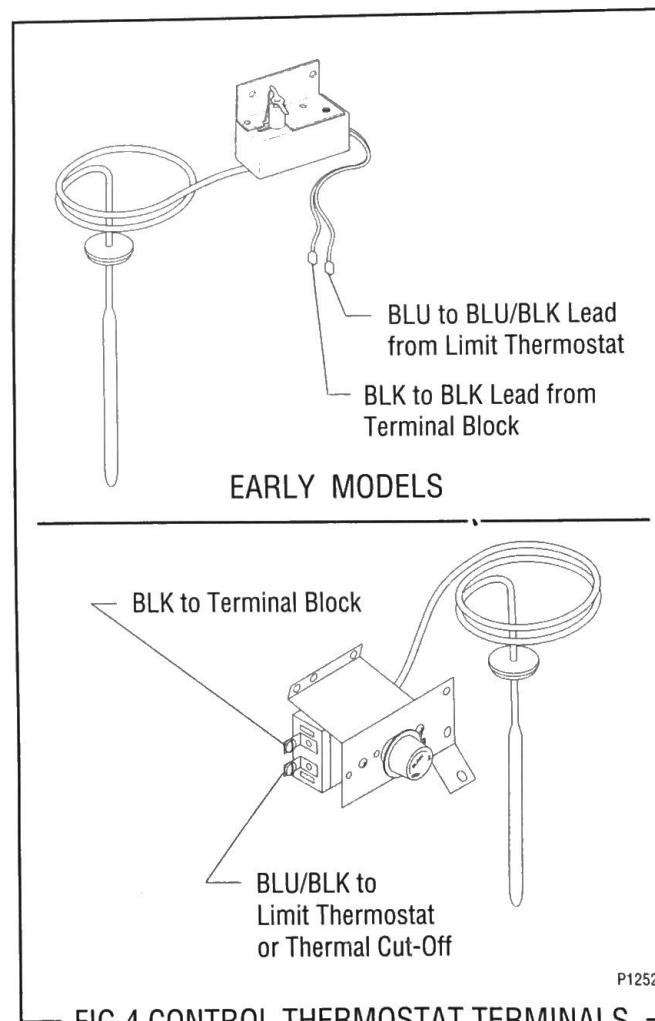

FIG.4 CONTROL THERMOSTAT TERMINALS
8. Refer to Fig. 4 when reconnecting the wires.